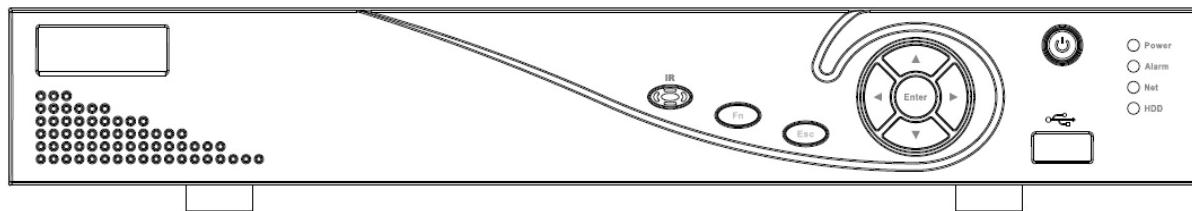

Figure 2-1
- The front panel is shown as below. See Figure 2-1.